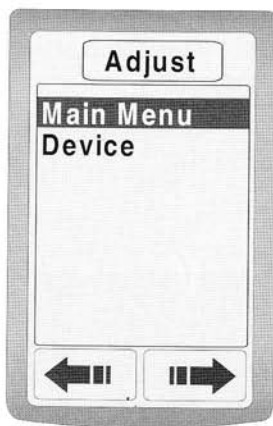

Figure 4-9: The adjust menu
1. From the adjust menu (Figure 4-9) select *Main Menu* and press enter.
1. From the adjust menu (*Figure 4-9*) select *Main Menu* and press enter.
From the adjust menu (Figure 4-9) select *Device* and press enter. You see the following screen:
1. From the adjust menu (*Figure 4-9*) select *Device* and press enter.